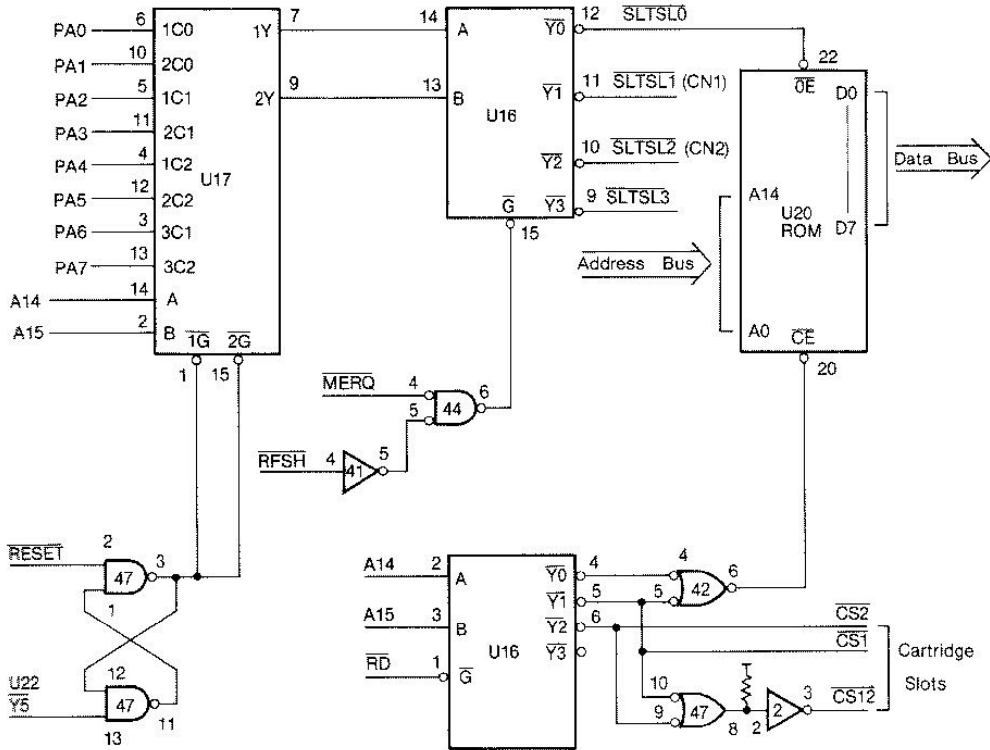

Fig. III-6
Fig. III-6 shows the unit's slot selection circuit. The data received from the PPI PA0-PA7 ports are divided into page unit slot select signals by U17 with the A14 and A15 address bus high-order 2 bits, these signals are decoded by U16 and slot select signals  $\overline{\text{SLTSL0}}$ ,  $\overline{\text{SLTSL1}}$ ,  $\overline{\text{SLTSL2}}$  and  $\overline{\text{SLTSL3}}$  are produced. The  $\overline{\text{SLTSL0}}$  signal is used as the enable signal of only the ROM on the main PCB. The unit's RAM is accommodated in logical terms in slot 3 and so the  $\overline{\text{SLTSL3}}$  signal is used as its enable signal. The signals which have NAND-ed the  $\overline{\text{MERQ}}$  and  $\overline{\text{RFSH}}$  signals are connected so that the slot select signals are not output to the U16  $\overline{\text{G}}$  pin (15) when the D-RAM is refreshed.
Apart from the slot select signals, it is stipulated that the ROM select signals listed below be output to the cartridge slots. Therefore, these signals are produced at U2, U47 and U16 using the address bus high-order 2 bits and  $\overline{RD}$  signal. (Refer to Fig. III-6.)